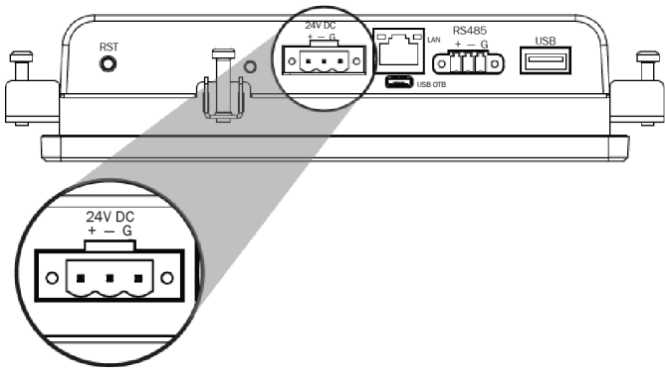

Fig. 9 — Wiring TruVu™ ET Display to the Power Supply
1. Wire the TruVu™ ET display **24 vdc** connector to the 24 vdc power supply using 2-conductor 18 AWG wire. Maximum distance 100 ft (30 m). See Fig. 9 for the ET display to the power supply.